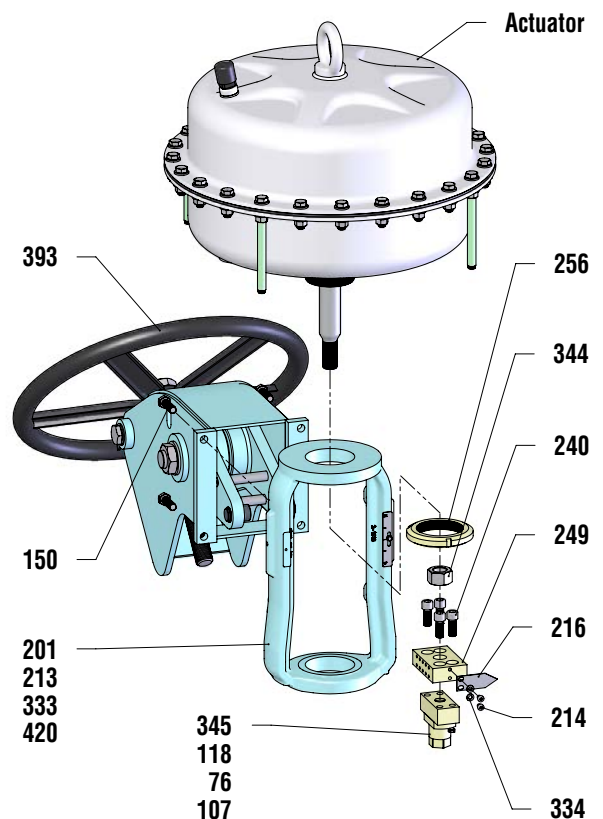

Figure 32: Coupling parts
10. If necessary mount actuator onto the yoke (201) put in line with the mark and tighten the actuator locknut (256) counter-clockwise. The vent plug shall be at a right angle to the yoke legs (see figure 32).